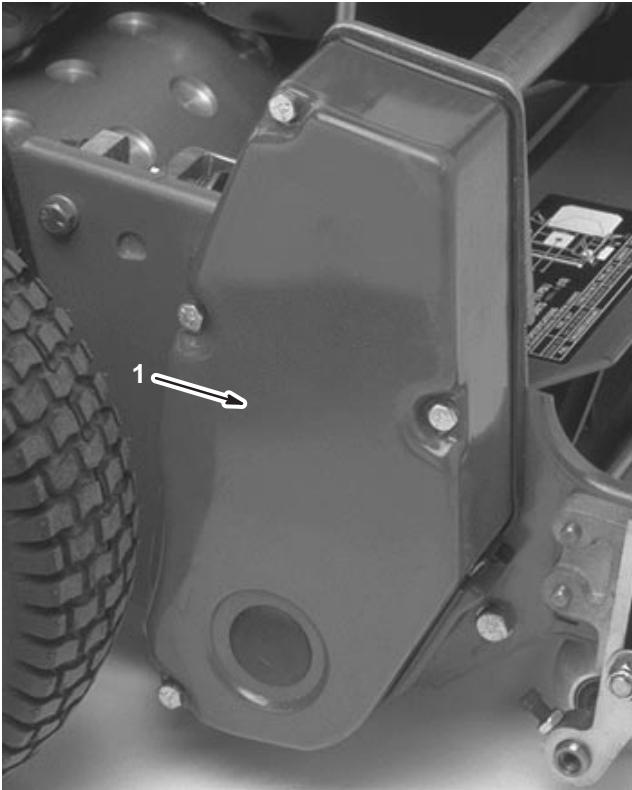

Figure 35
1. Remove the belt cover mounting screws and the belt cover (Fig. 35).